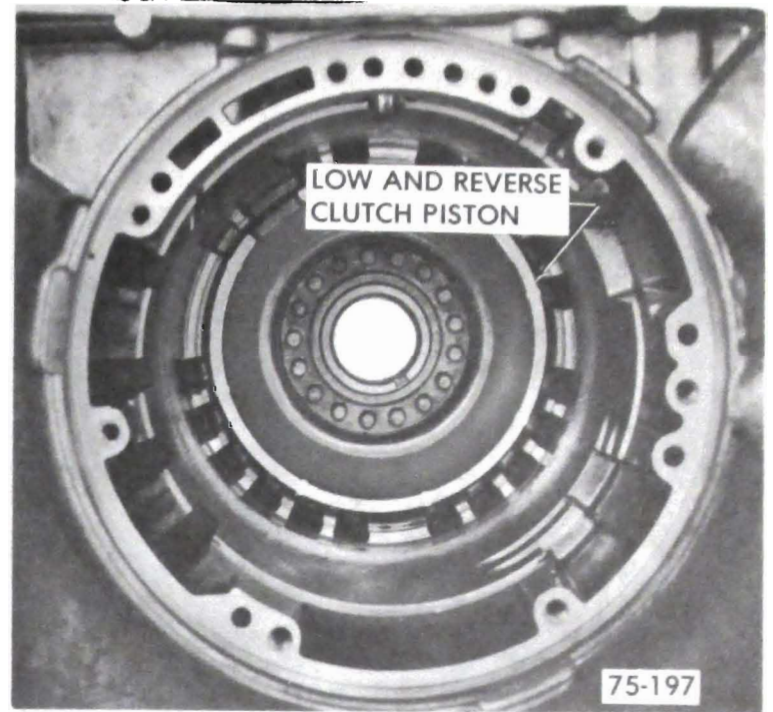

Figure 75-224
3. Install low and reverse clutch piston assembly with notch in piston installed adjacent to parking pawl. See Figure 75-224.